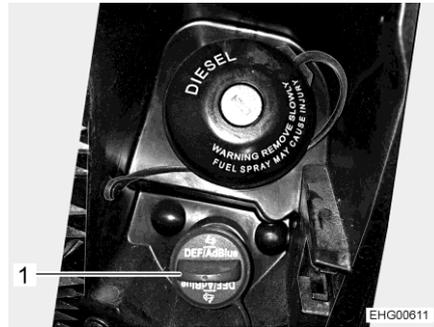
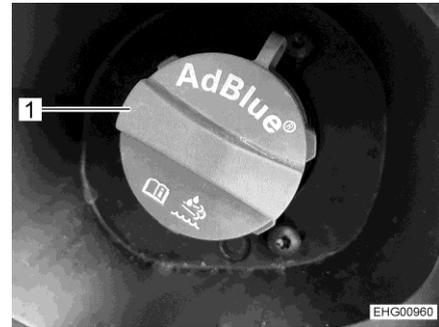

Fig. 12 Filler neck for AdBlue®
Fig. 13 Filler neck for AdBlue®
- Turn the blue lid (Fig. 12,1 or Fig. 13,1) in an anticlockwise direction and remove it.